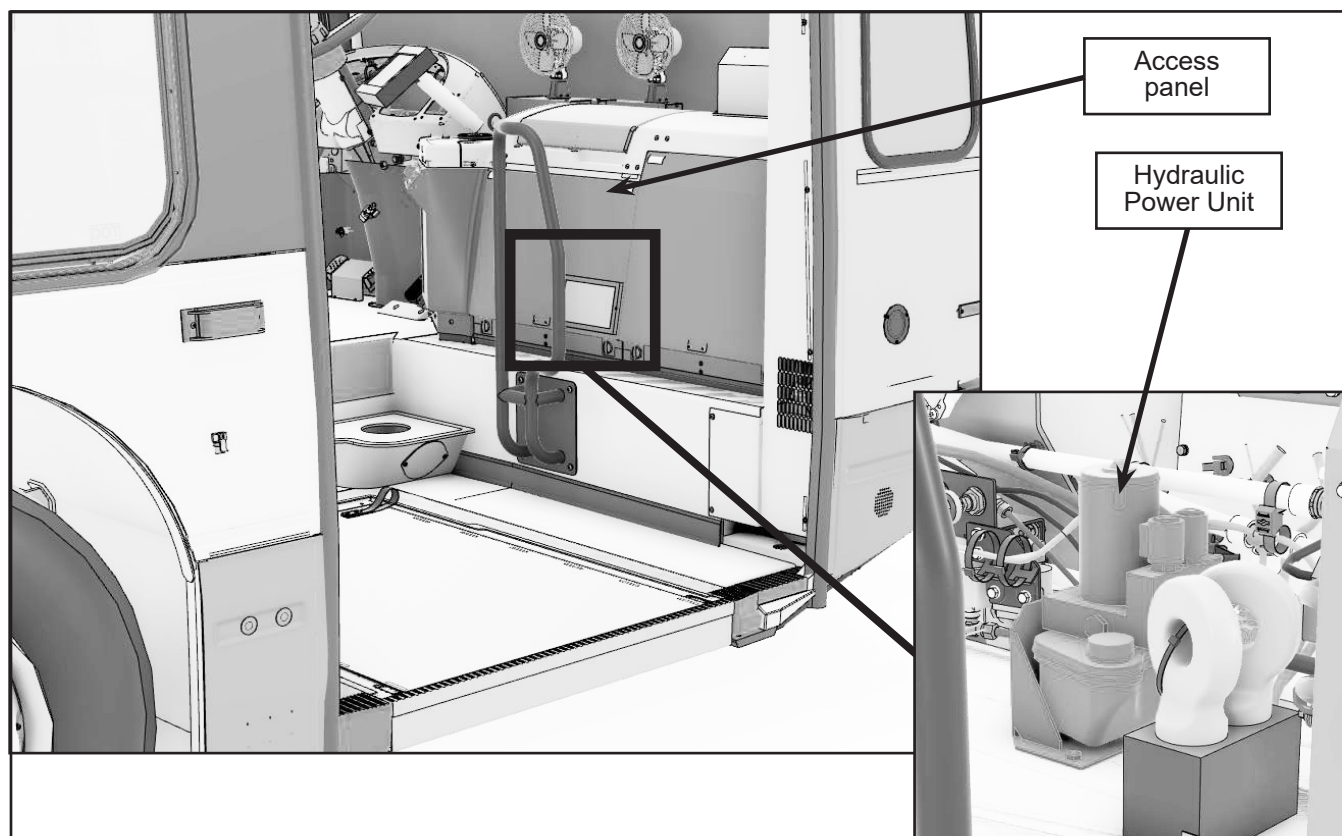

Figure 1 - Central Access Panel and Hydraulic Power Unit Locations (Typical Installation)
- 1.2. Locate the central access panel and the HPU (Hydraulic Power Unit) of the access ramp (Figure 1).
- 1.3. Remove the central access panel (Figure 1).